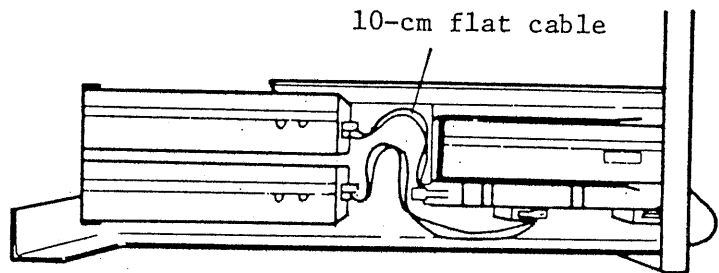

FIG. 13
- 11) To control both voltage and current, make connections as shown in Figure 13.
- 12) Fix cover ⑥.
- 13) To control voltage, disconnect the shorting bar from between rear terminals ④ and ⑤. To control current, disconnect the shorting bar from between rear terminals ⑪ and ⑫. To control both voltage and current, disconnect both shorting bars.